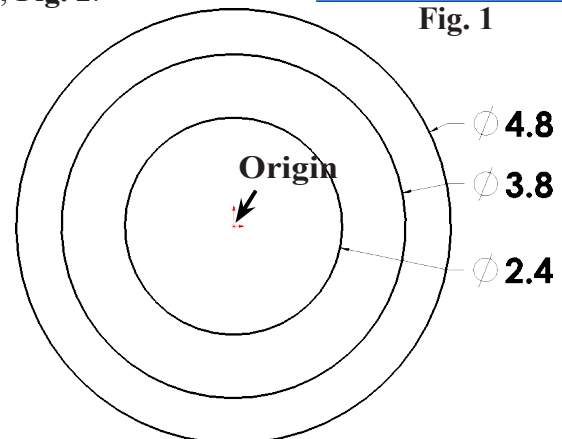

Fig. 2
- Step 4. Sketch **three circles** coincident at Origin , **Fig. 2**.
- Step 5. Click **Smart Dimension**  (S) on the Sketch toolbar.
- Step 6. Dimension diameters, **Fig. 2**.